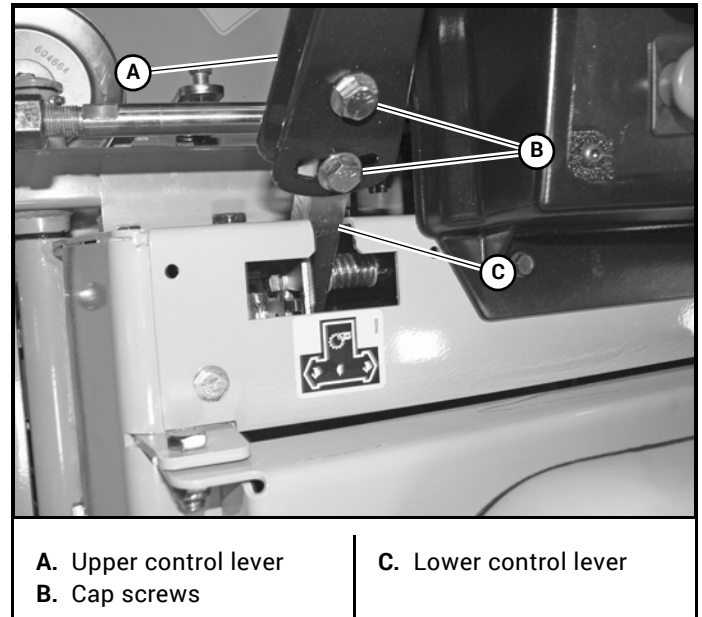

Figure 4-18
- A. To pivot the upper control levers forward or rearward, loosen the cap screws that attach the upper control lever to the lower lever. Then, pivot the upper control lever. Tighten the cap screws. Figure 4-18